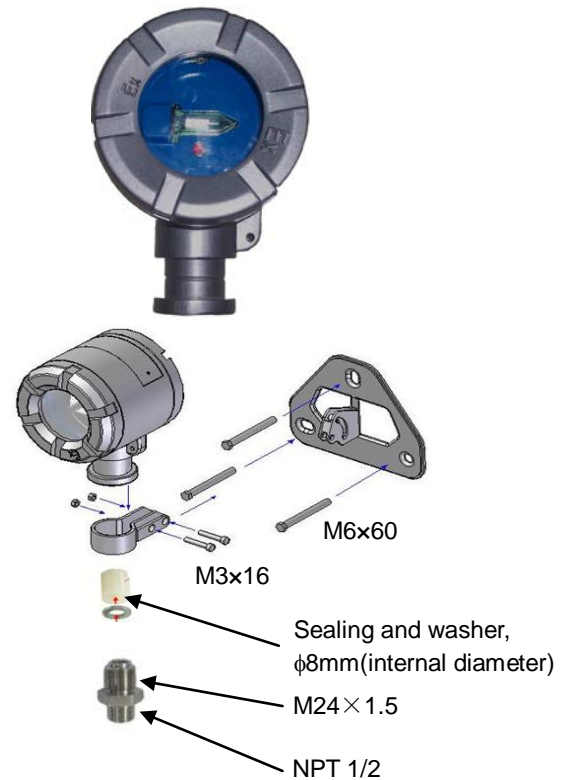

Fig. 1
- (1) Fig. 1 is the schematic diagram for installing the detector.
- (2) Please check the following after installation:
- (4) The enclosure must be earthed.
- (5) The lens only endures low impact energy, so the detector shall be installed the position where the foreign objects can't attack it.
- (6) The following places are not suitable for the detector:
- (7) The threaded entries comply with following parameters:
- ✧ Position on the equipment: see Fig.1